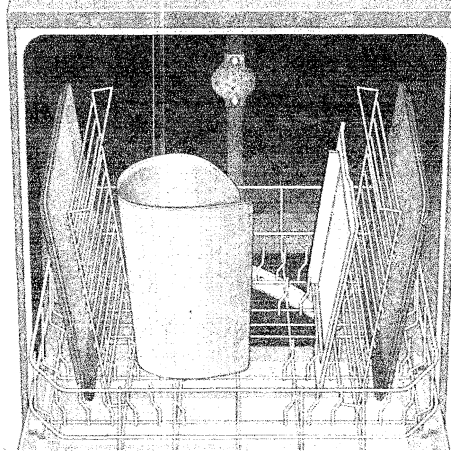

Figure 31
If you have extra tall items that cannot fit in the bottom rack without interfering with the upper spray arm or without hitting the top rack (max. height 22"), you can remove the upper rack. A special accessory, the Extra Tall Item Sprinkler, lets you run the dishwasher with top rack removed. See Figures 31 and 32.
3. Place the extra tall items in the bottom rack for washing, as shown in Figure 31. To remove the Extra Tall Item Sprinkler, turn it counterclockwise and pull it out. Then replace the top rack.